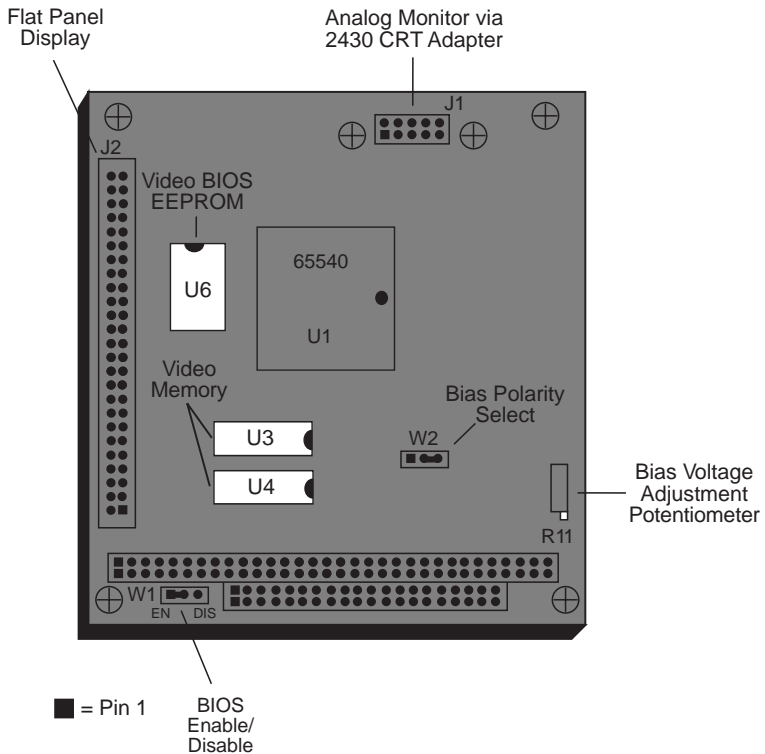

Figure 1—2430 Component Diagram
1. Please refer to Figure 1 for the location of various connectors before installing the 2430.